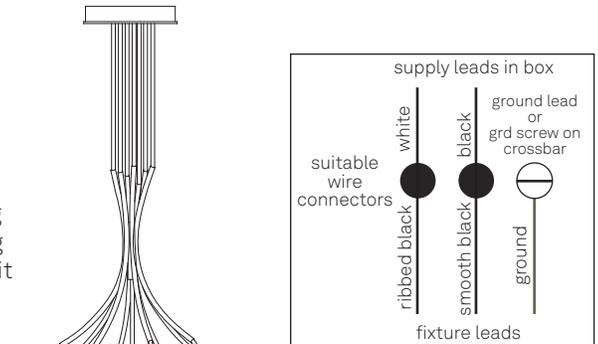

Figure 2. Wiring Diagram
- 1 Uncoil and gently smooth the fabric-wrapped electrical cords of each pendant. Determine the desired length of each cord and trim each one, making sure to leave enough additional length to make the wiring connections within the canopy. The intended composition of the completed fixture is such that the outer 8 pendants all hang at the same length and the center pendant hangs slightly lower (Figure 2) - this is naturally achieved by having all the pendants' cords trimmed to the same length - small adjustments can be made later on during installation. When trimming the fabric-wrapped electrical cords make sure to use electrical tape or other means to secure the fabric at the location of the cut, and then at the cut end to avoid splaying or fraying or slack in the fabric.
- 4 Carefully supporting the fixture, connect the exposed leads of the fixture to the leads in the electrical box according to the wiring diagram (Figure 2) using the wire and wire connectors provided. **Do not support the entire fixture on the weight of the electrical connections alone - remove glass from fixture anytime the fixture wiring must be inspected in the future.**